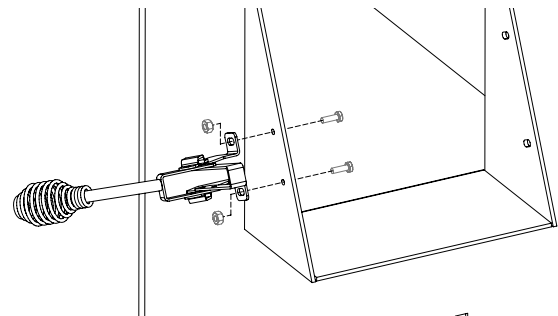

Figure 14
4. Attach feed door locking handle as in Figure 14 with screws and nuts provided. Note: Slotted holes are for adjustment of handle. Adjust handle until some pressure is required to lock feed door during firing sequence.